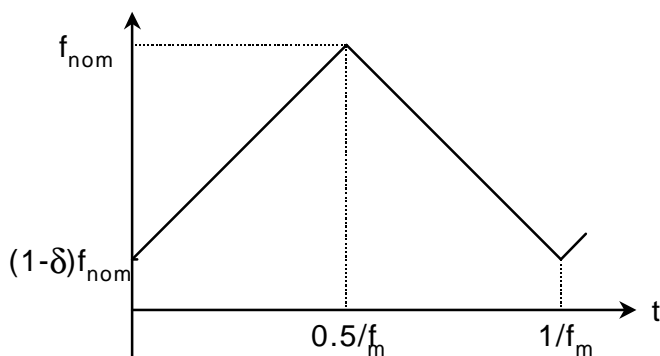

Figure 12 Triangular Frequency Modulation Profile.
5. The minimum clock period cannot be violated. The preferred method is to adjust the spread technique to not allow for modulation above the nominal frequency. This technique is often called “down-spreading”. An example triangular frequency modulation profile is shown in Figure 12. The modulation profile in a modulation period can be expressed as: